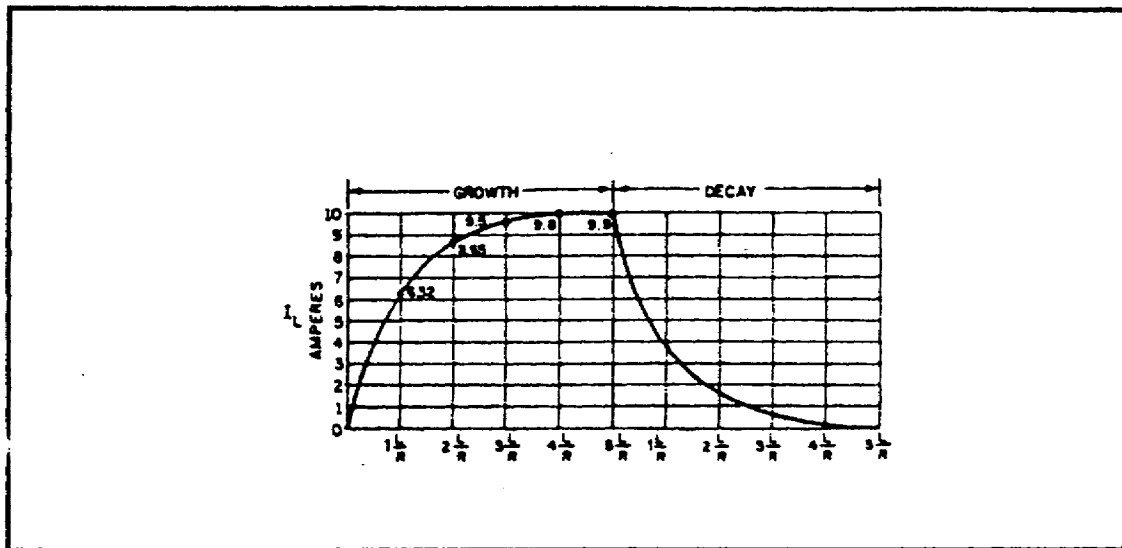

FIGURE 21. L/R TIME CONSTANT.
specific value. As shown in figure 21, one L/R time constant is the time required for the current in an inductor to increase to 63% (actually 63.2%) of the maximum current. Each time constant is equal to the time required for the current to increase by 63.2% of the difference in value between the current flowing in the inductor and the maximum current. Maximum current flows in the inductor after five L/R time constants are completed. The following example should clear up any confusion about time constants. Assume that the maximum current in an LR circuit is 10 amperes. As you know, when the circuit is energized, it takes time for the current to go from zero to 10 amperes.
(2) *Deenergization of an LR Circuit.* When an LR circuit is deenergized, the circuit decreases (decays) to zero in five time constants at the same rate that it previously increased. If the growth and decay of current in an LR circuit are plotted on a graph, the curve appears as shown in figure 21 on the previous page. Notice that the current increases and decays at the same rate in five time constants.